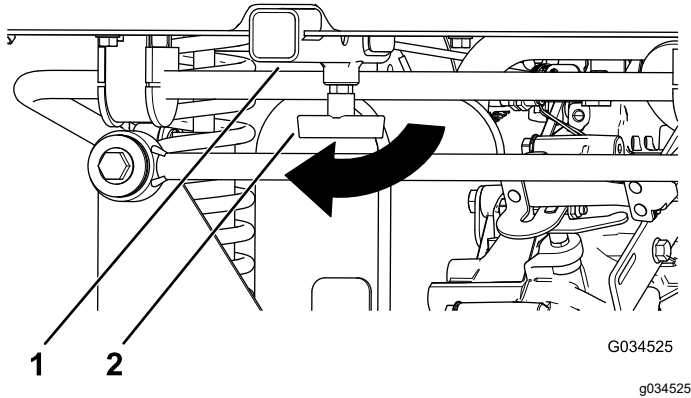

Figure 21
1. Loosen the “T” handle by rotating it clockwise (Figure 21).
2. Insert your accessory into the receiver until the holes align (Figure 21).